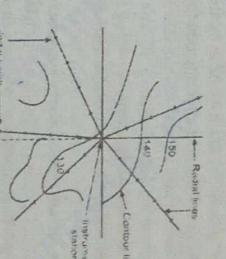

Fig. 5. Tacheometric Contouring
3. **Tacheometric Contouring method** (Fig. 5.) : This method is most suitable when a contoured map of a hill is required. In this method the instrument used is a theodolite or a transit theodolite fitted with stadia diaphragm. To begin with, a number of lines are set out at a given angular interval and the representative points are located in the field by observing